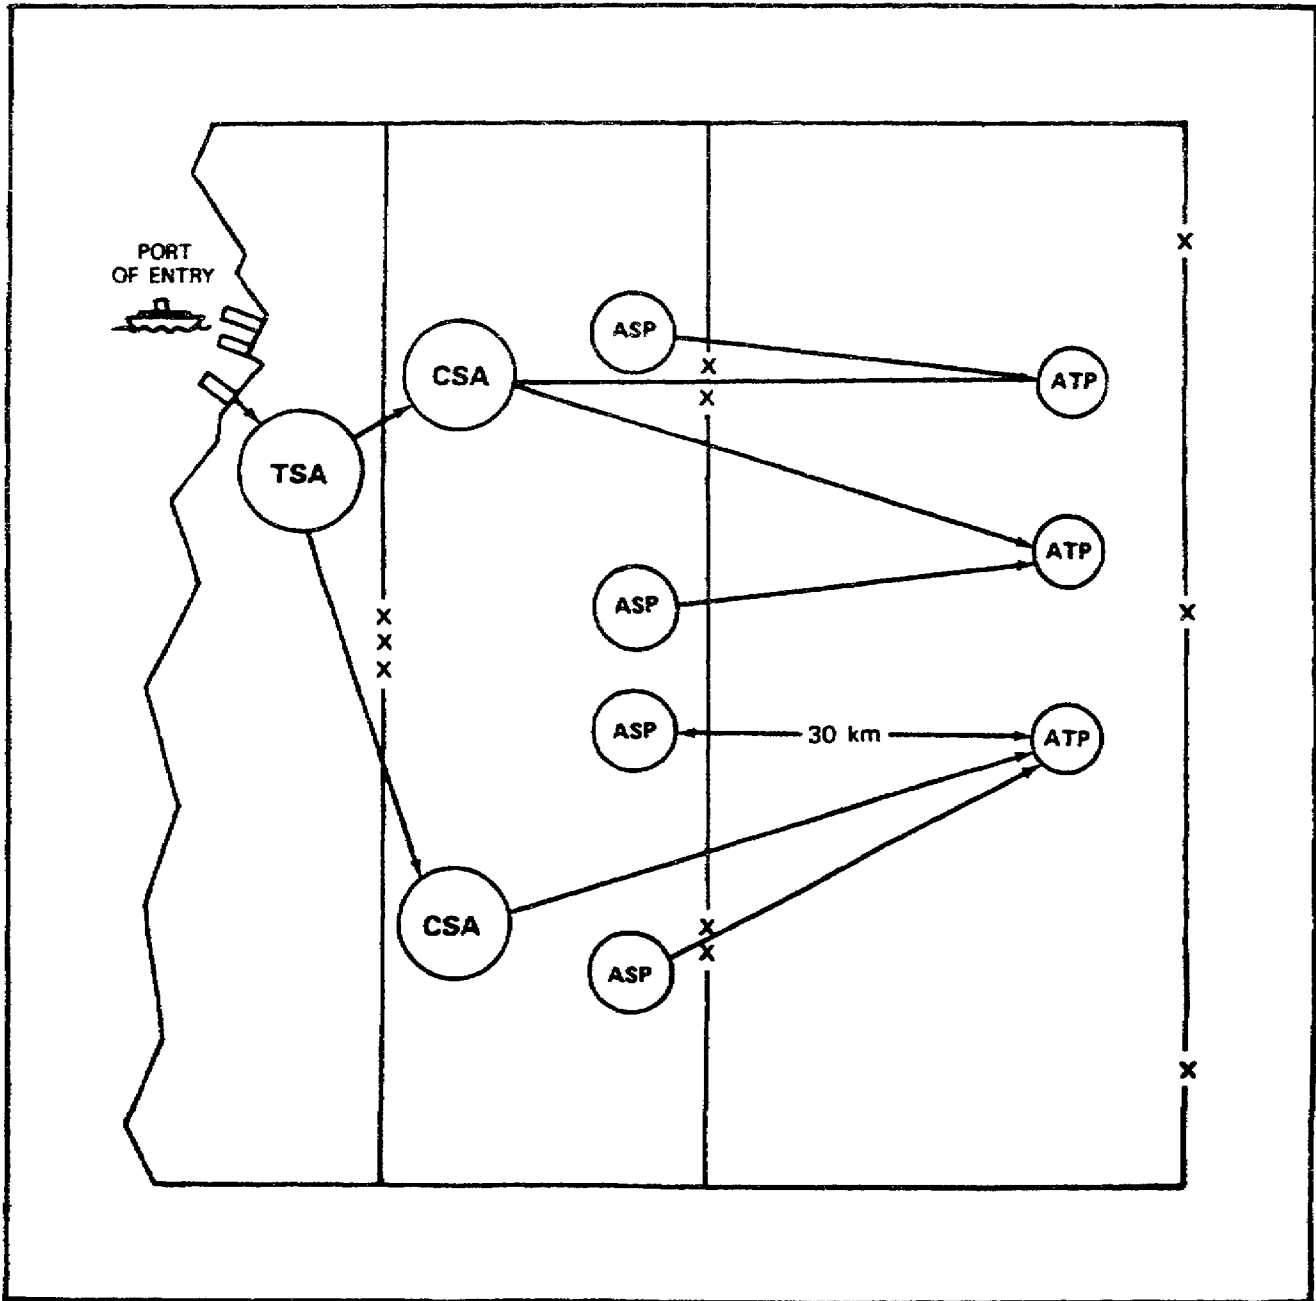

Figure 1-6. Ammunition Transfer Point Support Structure.
**ATP Support Structure.** Ammunition is sent to ATPs straight from the CSA by throughput distribution, but some resupply will come from support ASPs (Figure 1-6). There may be times when enemy action, the weather, or other obstacles stop or slow the normal resupply to the ATPs from the CSA, so each ATP has a support ASP for resupply. Some 80 percent of ATP stocks come from the CSA, and the remaining 20 percent come from the ASPs. ASPs do not deliver; either division or corps transportation must be used to draw ammunition from an ASP to an ATP.